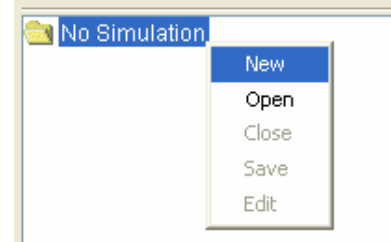

Figure 14.11 Simulation Control Panel Shortcut Menu: New Simulation
1. From the **Simulation** menu, select **New**. Or, in the **Simulation Control Panel**, right-click on the currently-active Simulation or *No Simulation* folder to access the shortcut menu (Figure 14.11). Select **New**.